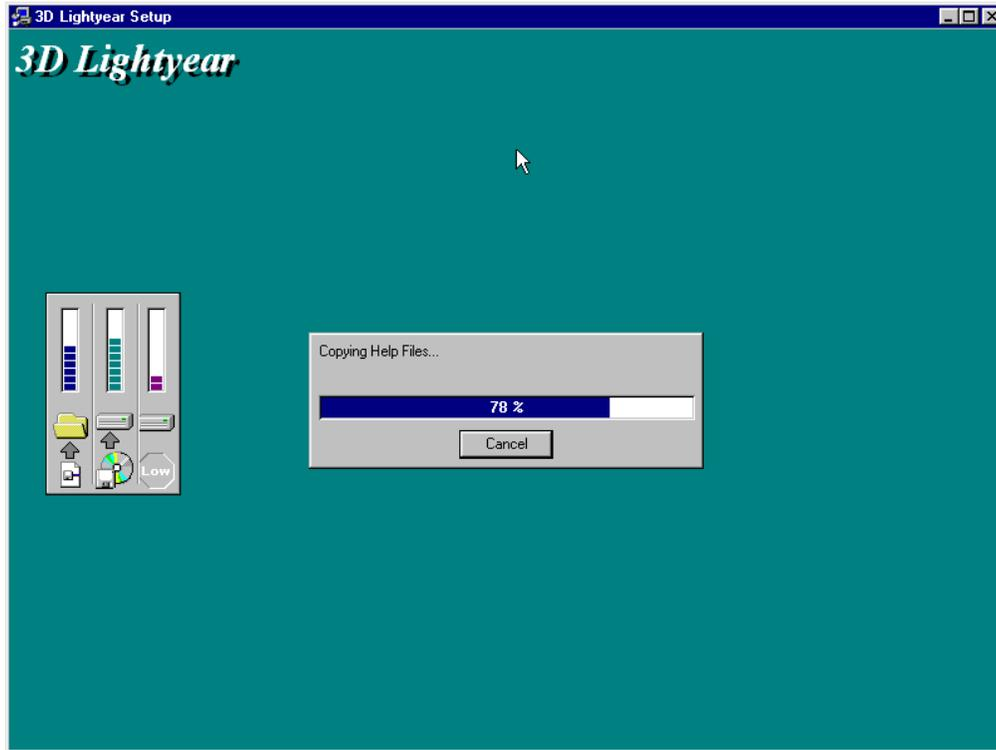

Figure 9. The 3D Lightyear software setup displays progress messages as it installs.
8. Follow the instructions given by the setup program on each prompt screen to complete the installation of the 3D Lightyear program. As the program installs, you will see various messages from the setup routine as files are transferred to their appropriate directories and expanded (see Figure 9).